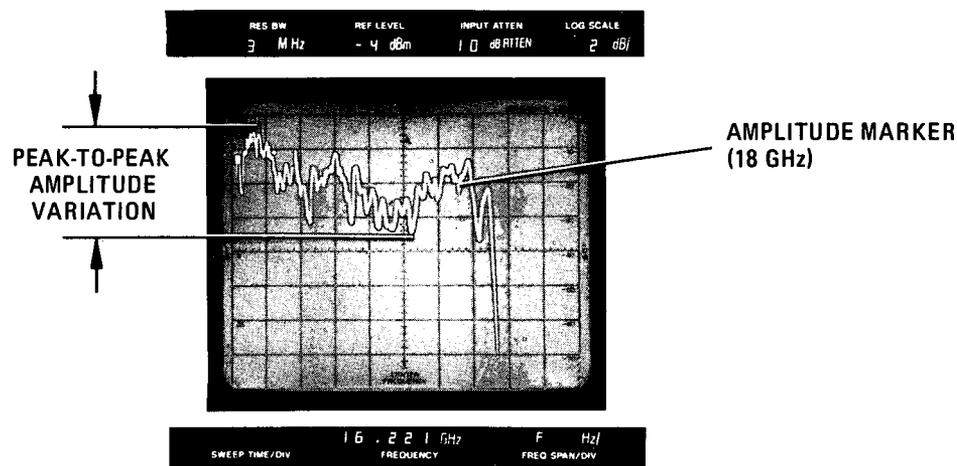

Figure 5-50. Phase Locked Spectrum Analyzer CRT Display (10.5–18 GHz)
- 5. Set sweep oscillator to automatic sweep mode and check for phase locked spectrum analyzer CRT display (Figure 5-50). If system is breaking phase lock repeat steps l-1 through l-4.